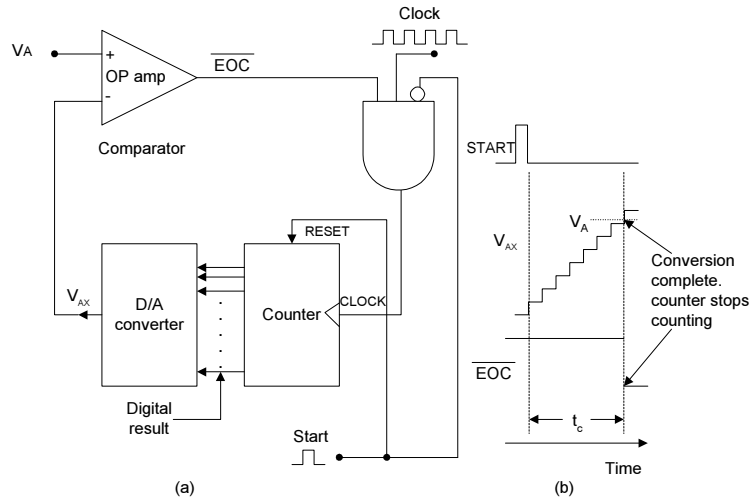

Fig. 7.7 : Digital-ramp ADC.
One of the simplest versions of the general ADC of Fig. 7.7 uses a binary counter as the register and allows the clock to increment the counter one step at a time until  $V_{AX} \geq V_A$ . It is called a digital-ramp ADC because the wave form at  $V_{AX}$  is a step-by-step ramp (actually a staircase) like the one shown in Fig. 7.7. It is also referred to as a counter-type ADC. Fig. 7.7 is the diagram for a digital-ramp ADC. It contains a counter, a DAC, an analog comparator, and a control AND gate. The comparator output serves as the active-LOW end-of-conversion signal,  $\overline{EOC}$ . If we assume that  $V_A$ , the analog voltage to be converted, is positive, the operation proceeds as follows :
5. As the counter advances, the DAC output,  $V_{AX}$ , increases one step at a time as shown in Fig. 7.7.